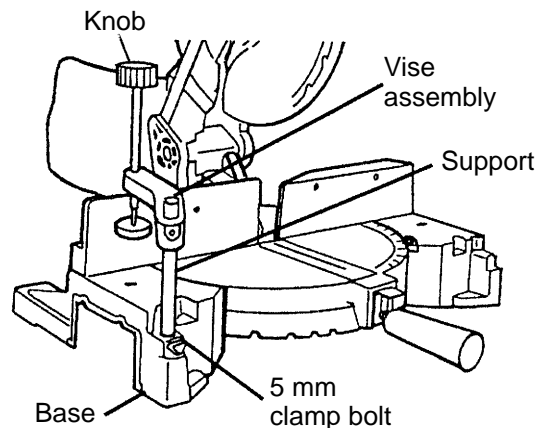

Fig. 4
(1) The vise ass'y can be mounted on either the left side base or the right side base, and can be raised or lowered according to the height of the workpiece.
① Insert the support of the vise ass'y into the hole located on either the left side base or the right side base.
② Then tighten the 5 mm clamp bolt, as shown in Fig. 4.
③ Turn the knob to thoroughly clamp the workpiece.